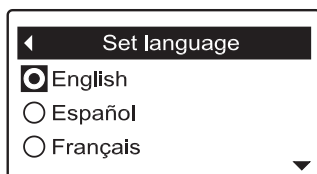

FIG. 103
4. The Set language menu is displayed (See Figure 103). The current language has a black dot next to it.